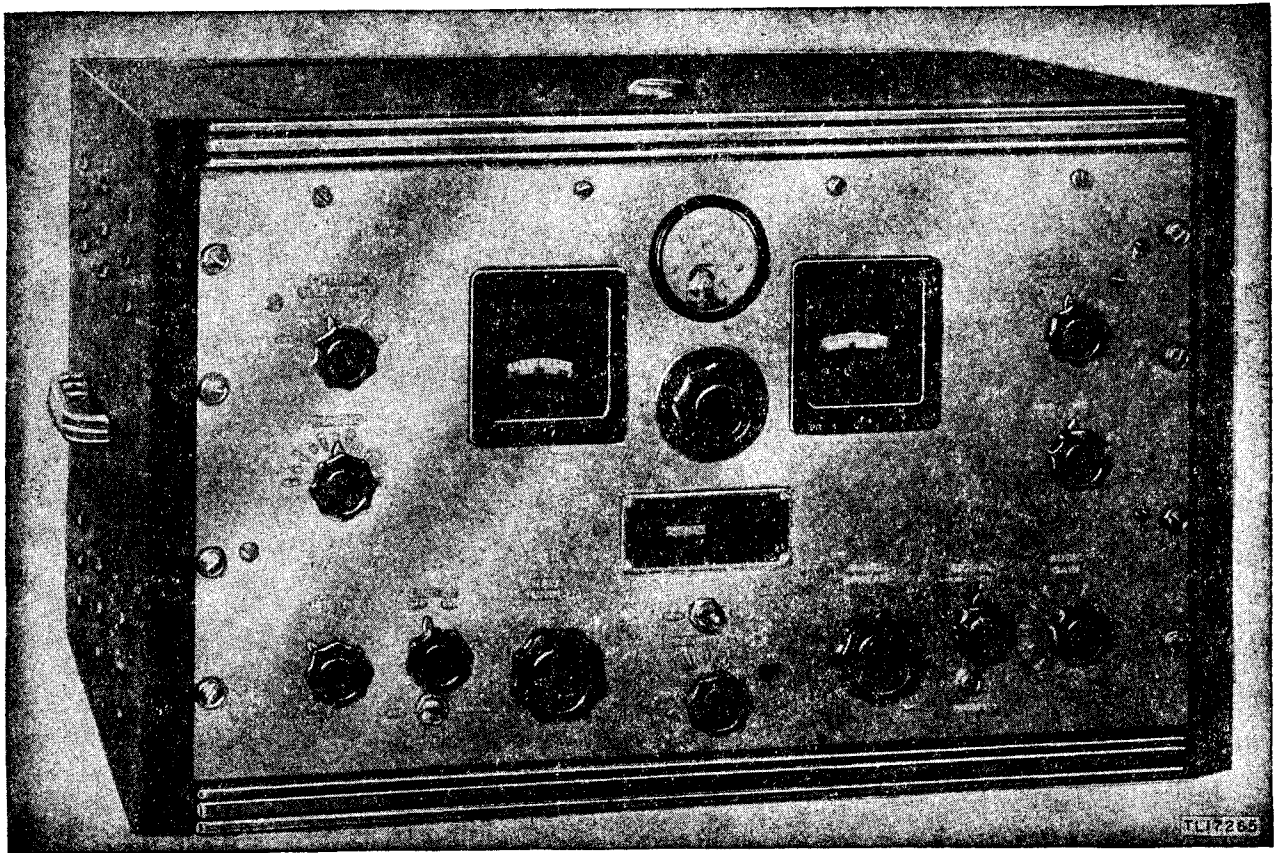
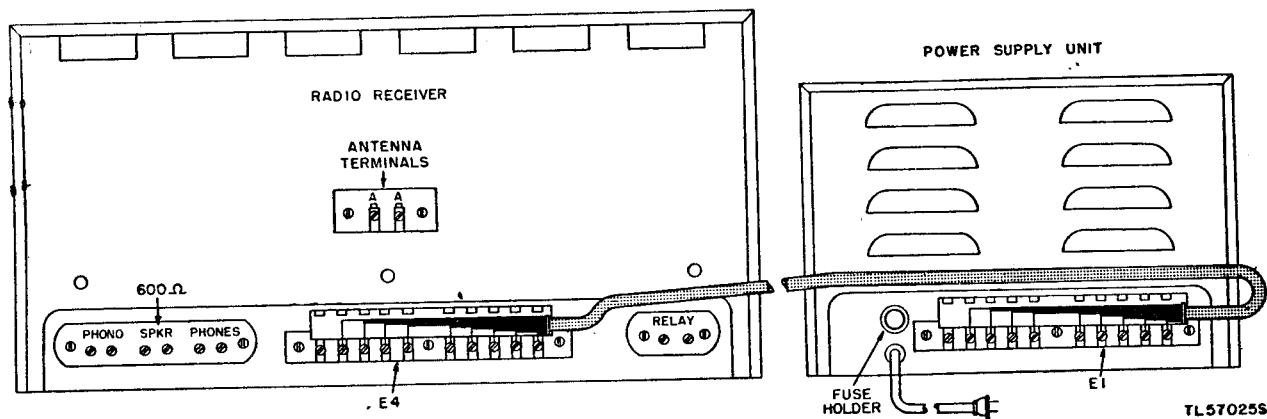
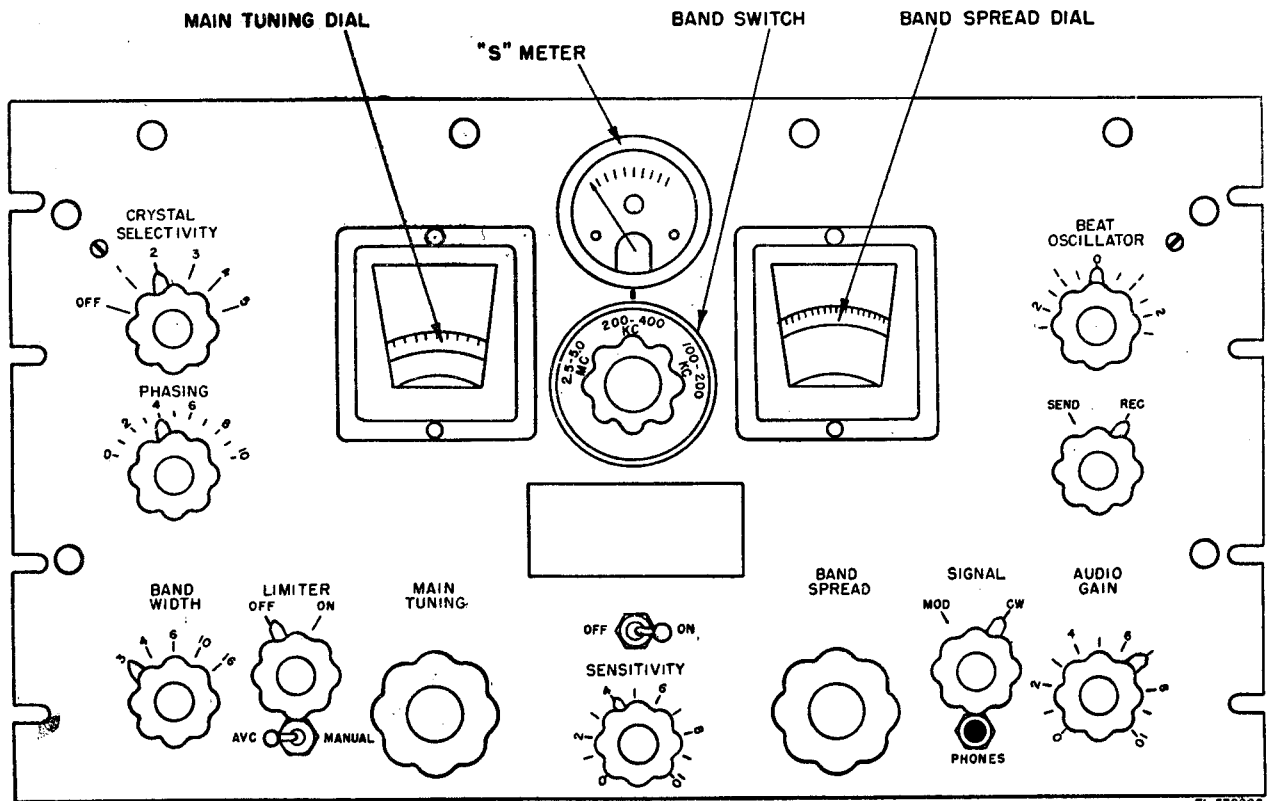

Figure 6. Radio Receiver BC-779-B in Cabinet CH-104-A.
Figure 10. Cable connections for a-c operation.
Figure 15. Radio Receiver BC-779-B, front panel.
in Cabinet CH-104-A (fig. 6). The under side of the receiver chassis is equipped with a steel cover plate which has heavy, felt-covered feet in the corners. The rear of the chassis (fig. 10) is provided with a terminal strip which is used in making connection either to the power supply unit or to batteries. The S meter located at the top center of the receiver panel is not supplied with Radio Receiver BC-1004-D.
(1) Remove the sheet metal covers from the terminal strip E4 on the rear of the receiver and from the terminal strip E1 on the power supply unit.
(2) Make sure that all 10 screws on each strip are unscrewed at least three turns.
(3) Attach one end of the connector cable to each terminal *exactly* as shown in figure 10 and
**d. EARPHONES.** Insert the plug of Headset HS-30 (or any other available headphone) into the PHONES jack (fig. 15), or connect it to the screw terminals marked PHONES on the rear of the chassis (fig. 10). No matching transformer is necessary.
##### 15. Receiver Controls (fig. 15)
*o.* SEND-RECEIVE SWITCH. This switch is provided for use when the receiver is used with an associated transmitter. The receiver is silenced when the switch is in the SEND position. This position allows the receiver to remain ready for instant use. The RELAY terminals at the rear of the receiver (fig. 10) are for convenience in connecting a relay to disconnect automatically the receiver in preference to operating the SEND-REC switch.
*q.* SPKR TERMINALS. These terminals on the rear of the receiver (fig. 10) are provided so that a permanent magnet type loudspeaker may be connected to the output of the receiver.